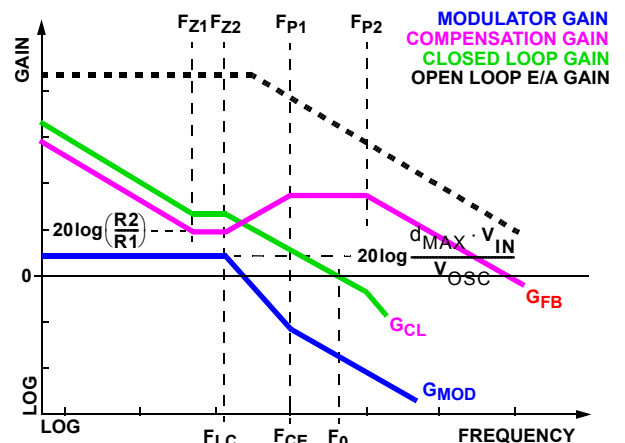

FIGURE 11. ASYMPTOTIC BODE PLOT OF CONVERTER GAIN
Figure 11 shows an asymptotic plot of the DC/DC converter's gain vs. frequency. The actual modulator gain has a high gain peak dependent on the quality factor (Q) of the output filter, which is not shown. Using the above guidelines should yield a compensation gain similar to the curve plotted. The open loop error amplifier gain bounds the compensation gain. Check the compensation gain at  $F_{P2}$  against the capabilities of the error amplifier. The closed loop gain,  $G_{CL}$ , is constructed on the log-log graph of Figure 11 by adding the modulator gain,  $G_{MOD}$  (in dB), to the feedback compensation gain,  $G_{FB}$  (in dB). This is equivalent to multiplying the modulator transfer function and the compensation transfer function and then plotting the resulting gain.